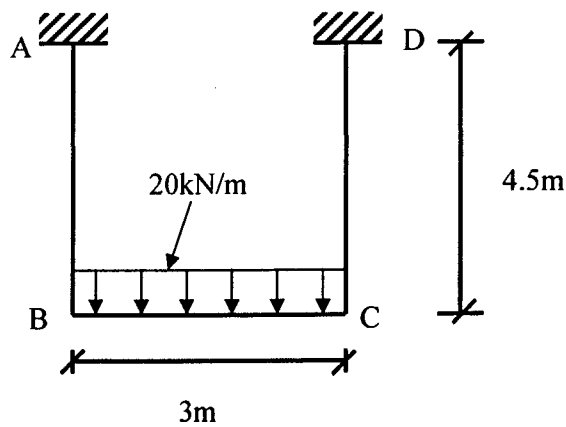

Figure 3
3. Figure 3 shows a typical frame of a part of a building. Support A and D are fixed. Span BC carries a uniformly distributed load of 20 kN/m. EI value for all members is equal. Using the Slope Deflection Method, calculate the bending moment at joint A, B, C and D and then sketch the distribution of the bending moment throughout the frame.